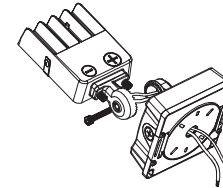

figure 1.7
- Step 3: Pass the wire through the square bracket fixing seat, and fix it with a hexagon socket screw.(Watch out not to scratch the wire); (figure 1.7)